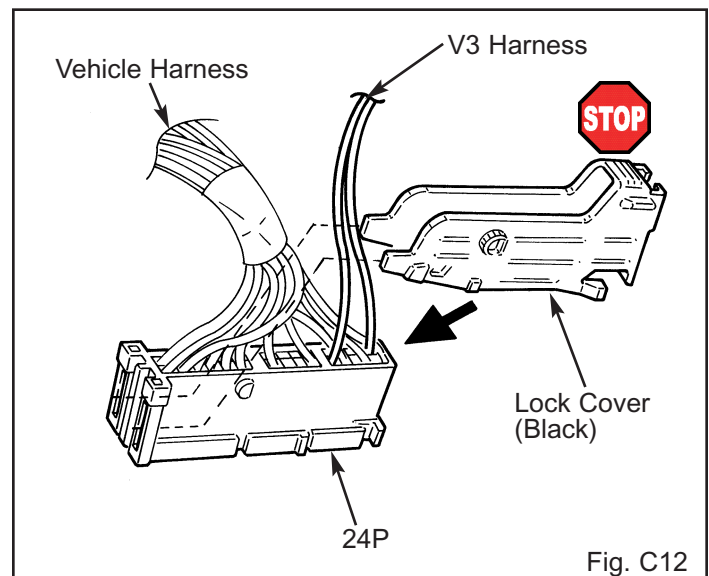

Fig. C12
25. Refit the lock cover of the 24P connector. (Fig. C12)